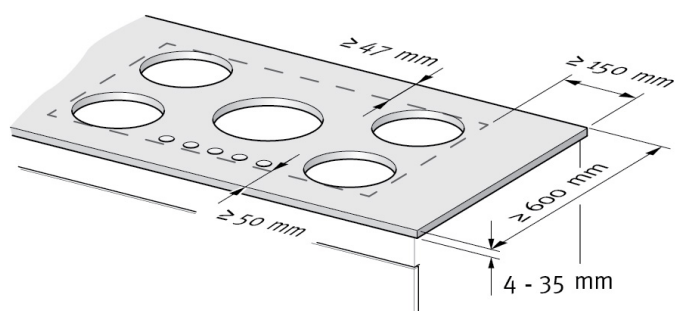

fig. 1
- Necessary precautions must always be taken when installing the induction cooktop (see figs. 1, 2, and 5).